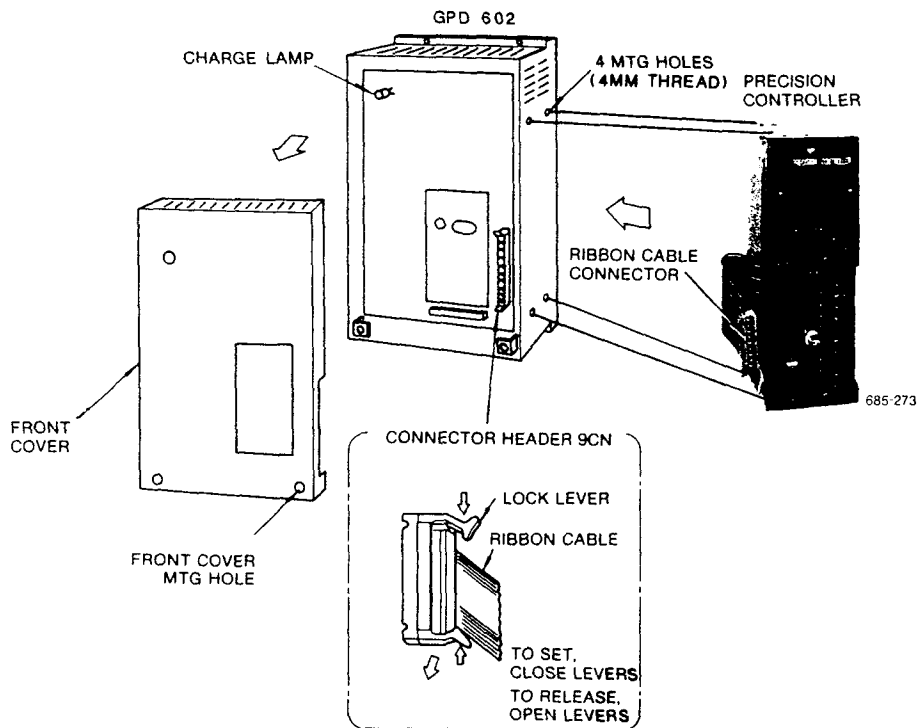

Figure 3. Installation of Precision Controller on GPD 602
3. See Figure 3. Install the Precision Controller on the right side of the GPD 602 (when facing the cabinet) through M4 tapped holes and plug-in the ribbon cable connector to the header 9CN. Make sure to lock the connector, closing the lock levers on both sides of the header.